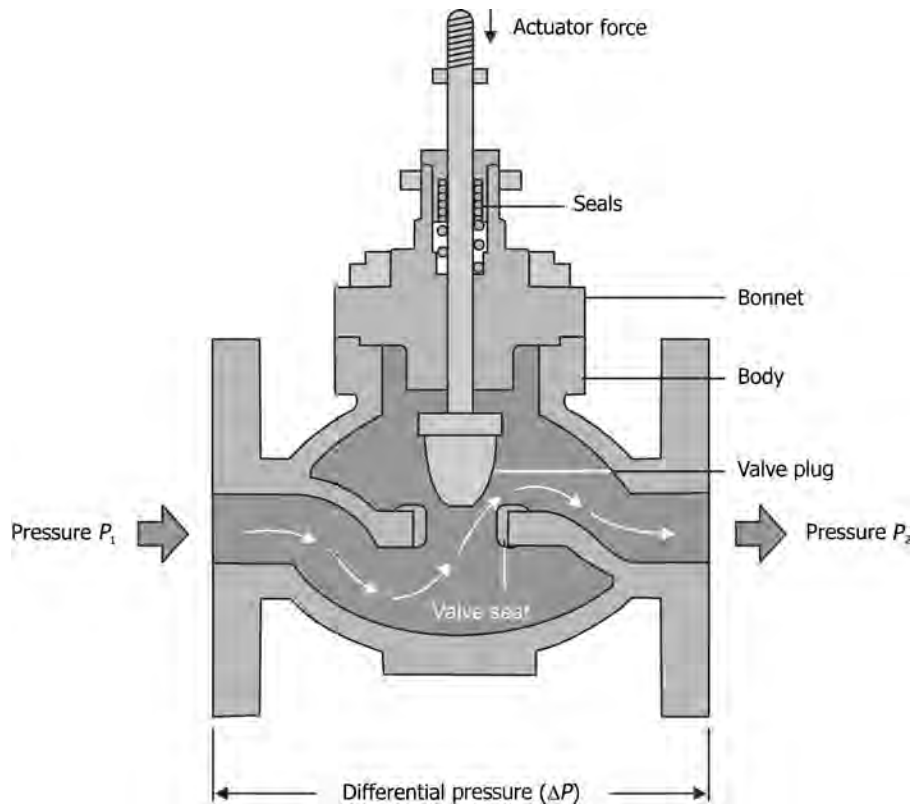

FIGURE 3.7 Globe valve.
- As the valve plug changes, the area for flow between the plug and the seat (opening) changes (Figure 3.7).